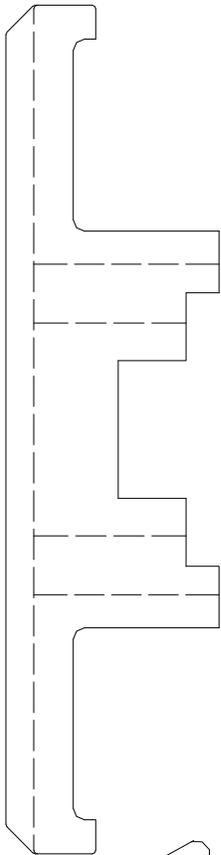

**Figure I.2**
**Stainless Steel Gate / Stall Front** (Reference Figure I.2)